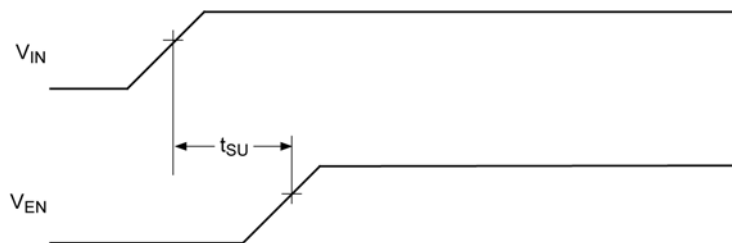

Figure 1c. Input-to-Enable Setup Timing
| t SU | V IN to EN Set-Up       | MIC2549 (7) , Figure 1c                                            | 0    |      |      | μs    |